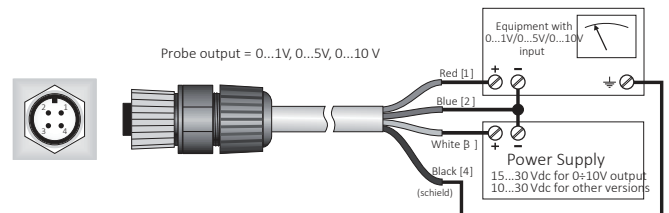

Fig. 8
- LP PYRHE 16 AV should be connected to a power supply device and to a multimeter according to the scheme below (figure 8), the load resistance for signal readout should be  $\geq 100 k\Omega$ :